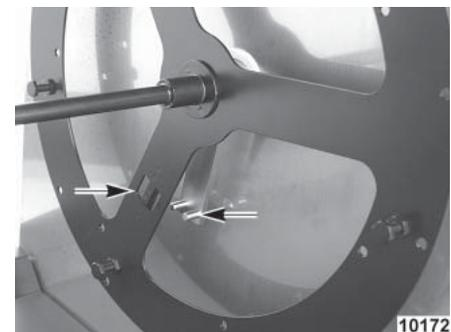

Figure 7
STEP 4: Turn the rotor, lining up the square drive slots on the rotor end plate with the pins on the drive arm (Figure 7).